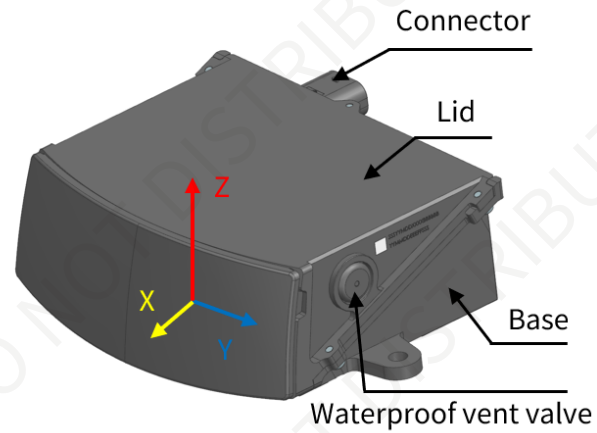

Figure 2. Coordinate system (isometric view)
- The lidar's coordinate system is illustrated in Figure 2. Coordinate system \(isometric view\). The Z-axis is the axis of rotation.